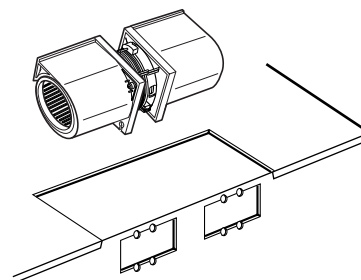

Figure 18-b
- (1) When mounting the door assembly to the oven assembly, be sure to adjust the door assembly parallel to the chassis. Also adjust so the door has no play between the inner door surface and oven frame assembly. If the door assembly is not mounted properly, microwaves may leak from the clearance between the door and the oven.
- (3) Carefully pull the ventilation motor ASS'Y out of the microwave oven. (See Figure 18-b)
- (2) Remove MOUNT ALL loosening one screw loosening one screw securing the ventilation Motor and back plate. (See Figure 18-a)